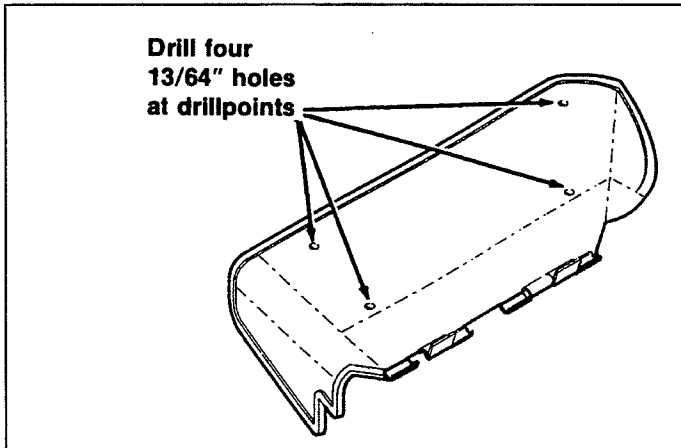

Figure 6.
10. See figure 6. Turn deflector over and locate the drill-points for mounting the support rod (A, figure 6). Drill four 13/64" holes. Install deflector to new support and secure with screws and nuts as shown in figure 1.